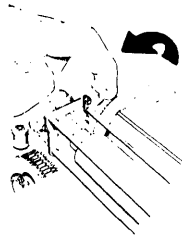

Fig. 46—Pressure Roller Release Lever
9.01 Pull pressure roller release lever up and to the front (Fig. 46).